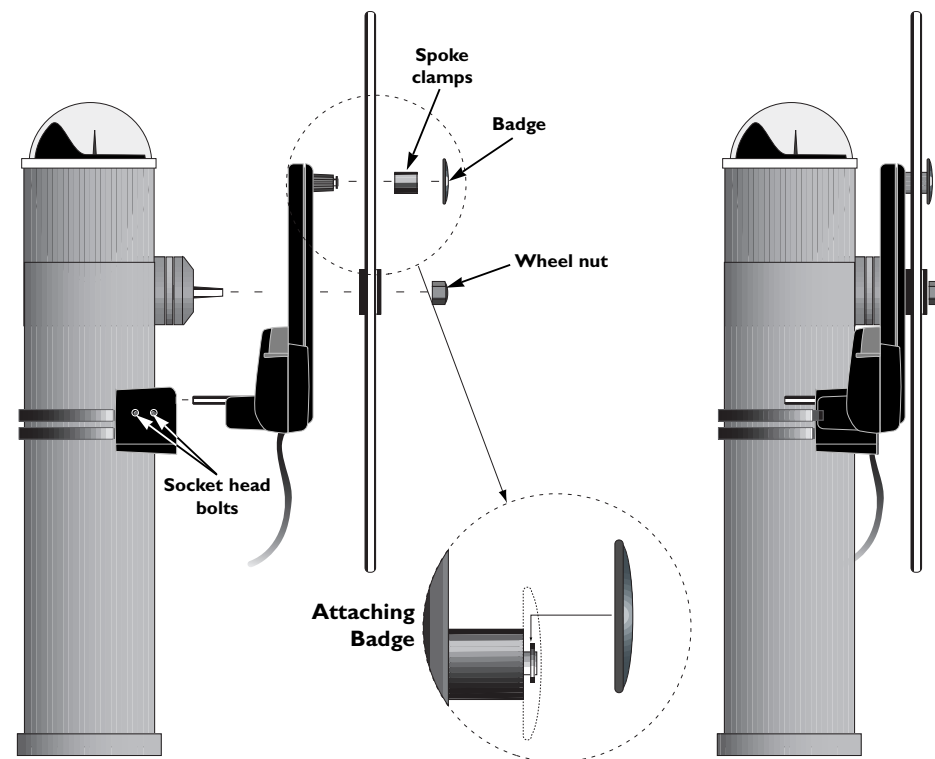

Fig 4.8 - Fitting of Wheelpilot
12. Clip the Simrad badge onto the spoke clamps (Fig 4.8).